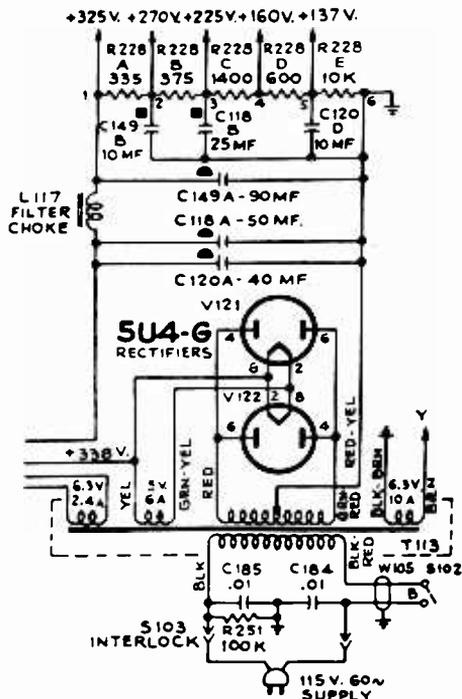

Fig. 2. Typical Transformer Power Supply.
*Transformer Types.* The AC-DC power supply previously discussed cannot supply a dc voltage in excess of 100 volts so TV and other receiver circuits that require higher dc operating voltages will use a power transformer to step up the line voltage. A typical television receiver power transformer type power supply is shown in Fig. 2.
For full-wave rectification two ac power supplies are necessary. These supplies must be 180 degrees out of phase. But when one is positive, the other is negative. Since one of the plates is always positive and since the cathode (filaments in Fig. 2) are connected together, the input filter condenser C118A-C120A, is recharged on the peak of each half cycle. The red-yellow lead in Fig. 2 is common to both ac supplies and serves the same purpose as the power line lead connected to the ac-dc receiver B— circuit. The center tap splits the secondary windings in two separate ac sources. Thus only the 350 volts ac appears between each rectifier plate and B—. This is still considerable higher than the half-wave (single rectifier plate) input ac voltage of 120 volts.
cycle. For one-half of a cycle, the secondary winding places one rectifier plate at a positive potential and the other at a negative potential. In Fig. 2, plate 4 of V121 and plate 6 of V122 will be positive at the time that plate 4 of the V122 and plate 6 of the V121 are negative. During the second half of each cycle, the polarity is reversed. As a result power is delivered to the input filter condenser one hundred twenty times each second, rather than 60 times each second as is the case with half-wave rectification. The out-standing advantage of full-wave rectification is that more power is available with less ripple and hum content. Incidentally, one dual rectifier plate tube can normally be used but an unusually large number of tubes in this television receiver call for two rectifier tubes connected in parallel to safely pass the heavy current demands of the loads.
*Trouble Shooting the Transformer Type Power Supply.* In Fig. 2 there are a number of additional secondary windings that supply current to several filament circuits. The 6.3-volt, 2.4-ampere winding will energize the damper filament; the 5-volt, 6-ampere winding supplies power to the rectifier filaments in the remaining receiver tube filaments and operate from the 6.3-volt, 10-ampere winding. The combined secondary power loads are reflected in the primary winding. Occasionally, the insulation between the primary winding layers will break-down and short out a portion of the primary turns. The loss of primary inductance will increase the current and before long the excessive heat will damage the primary winding.
As indicated in Fig. 2, the maximum filtered output dc voltage is 325 volts with lower voltages tapped from the voltage divider resistor. Lower than normal voltage will result when a weak rectifier tube drops an excessive voltage between the filaments and plates. An unfortu-